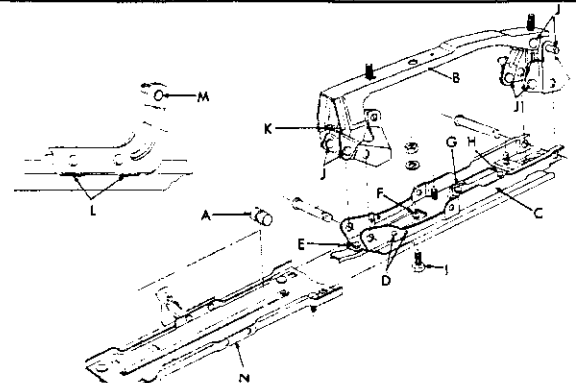

Fig. 106—Seat Guide (Exploded View) ^{58x209}
(1) Remove the drive unit and the cables. Refer to "Removal and Installation of Flexible Cables". The seat guide should be in the up and forward position.
(2) Remove the long clevis pin from the front of the guide (Fig. 106).
(3) Remove the front rack clevis pin.
(4) To facilitate the removal of the slave unit, remove the slave unit cap.
(1) Position the slave unit over the studs on the guide base.
(2) Position the racks in the slave unit so they will be in the up and forward position.
(3) Fasten the racks to the guide assembly.
(4) Position the springs on the racks and install the slave unit cap.
(5) Install the slave unit mounting nuts.
(6) Install the front guide clevis pin (Fig. 106).
(7) Install the cables in their slots and try operation of guide.